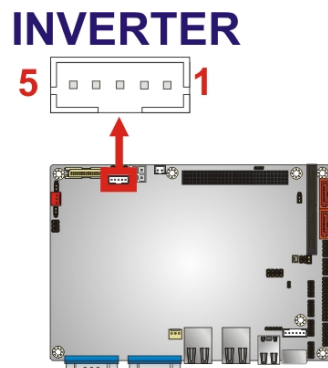

Figure 4-12: Inverter Connector Location
- CN Location:** See **Figure 4-12**